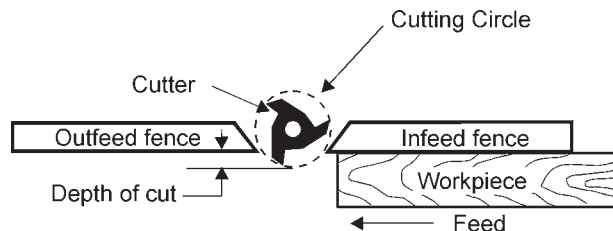

FIGURE 19
1. For normal work, where a portion of the original edge of the stock is not touched by the cutter, both the infeed and outfeed fence are in a straight line, Figure 19.